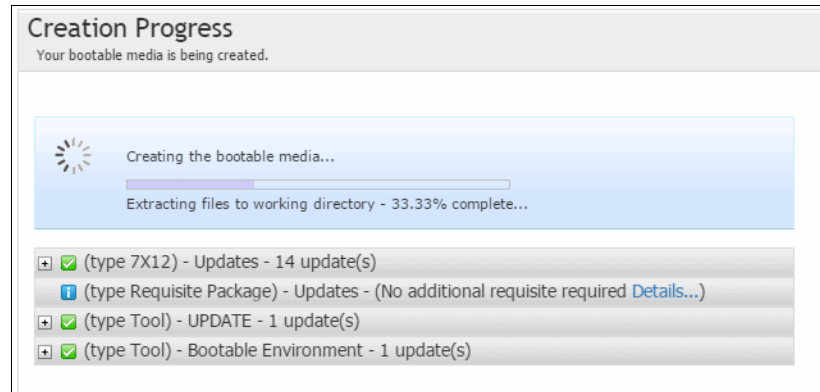

Figure 5-68 Select the devices that require firmware updates
13. Once the downloads have completed, BoMC will start the creation of bootable media, as seen in Figure 5-68 on page 171. This may take a moment to complete depending on the size of the download.